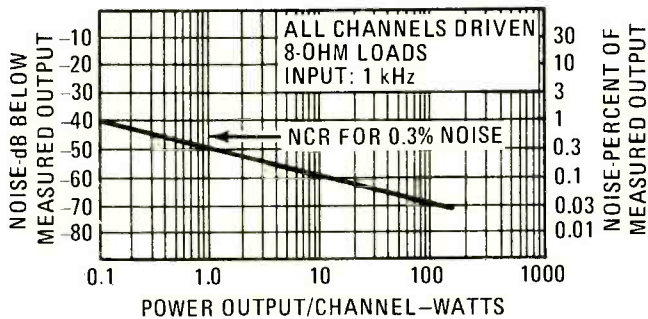
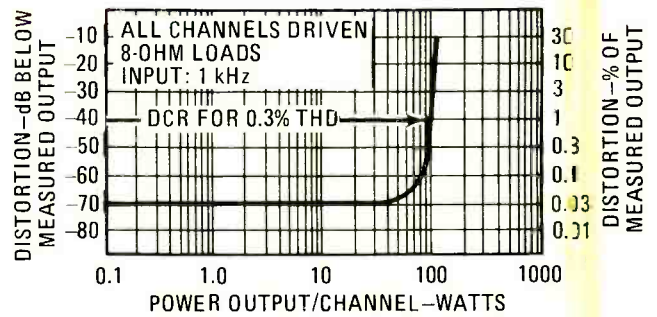
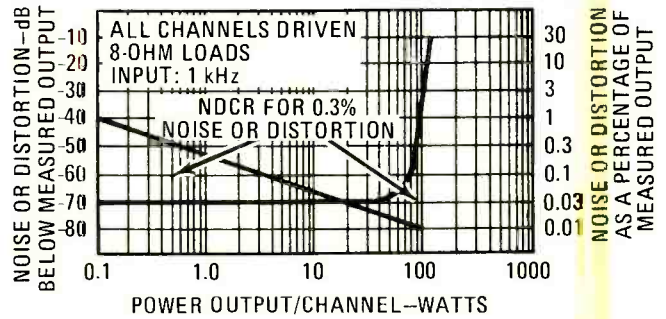

FIG. 3—RELATIVE NOISE LEVEL of a typical amplifier decreases as output power is increased.
FIG. 4—ELIMINATION OF NOTCH DISTORTION results in a harmonic distortion characteristic that doesn't rise at the low-power extreme.
FIG. 5—NOISE AND HARMONIC DISTORTION characteristics combined on a single graph.
A third system concentrates on discrete instruments, but links them together in a dressy equipment rack. The Hickok *Comm-Line* series best illustrates this approach. (See Fig. 3.)
**FIG. 3—ATTRACTIVE DESIGN adds to usefulness of the Hickok *Comm-Line* rack of CB test equipment. Appearance impresses customers when rack is within view. New instruments can also be added as they are introduced.**
Here's a major departure from other methods of gathering CB test instruments. Consider this lineup: A CB RF generator; a seven-digit frequency counter; two-tone audio source; dummy load; RF wattmeter; amplitude-modulation meter with digital readout; audio wattmeter and distortion tester; crystal tester that reads natural frequency of any crystal; and a beat oscillator to measure RF output and modulation on a relatively narrowband scope. What is unusual is that *all* these instruments are housed in one instrument case—the unit is Sencore's *model CB42 Analyzer* shown in Fig. 4.
**FIG. 4—SENCORE MODEL CB42** contains several instruments that are needed to service CB gear, plus extra features some systems do not have. With this setup, few other instruments are needed on the bench.
Typical among these units are two made by Lampkin Laboratories, *model 107C* (shown in Fig. 5) and *model 109*, both designed essentially to measure fre-
**FIG. 5—LAMPKIN LABORATORIES** has been manufacturing frequency meters since the early days of communications. The *model 107C* is highly accurate for AM and FM servicing.
So far, we have only dealt with distortion. But, as everyone knows, an amplifier also has a residual noise level. Figure 3 indicates the amount of noise at the output of the 100-watt amplifier, expressed as a percentage of any output level, or in the number of dB below that output level. When the amplifier delivers its full rated output of 100 watts, residual
Modern amplifiers are designed with virtually *no* crossover or notch distortion and, therefore, have a wide "distortion clearance range." In Fig. 4, the distortion clearance range for 1.0% THD extends from zero all the way up to the maximum rated output. If we *combined* the noise clearance range shown in Fig. 3 with the distortion clearance range of Fig. 4, we would come up with the "noise-plus-distortion clearance range" diagram shown in Fig. 5. Now, if we wanted to specify that this amplifier will operate at no more than 0.3% *noise plus distortion*, we would have to assign a noise-plus-distortion clearance range to it that extends from 0.5 watt to 90 watts. If we accepted a combined noise and distortion at some point in its dynamic range of 1.0%, the noise-plus-distortion clearance range would be extended to 0.1 watt at the low-power end and to 100 watts at the high-powered end.
The rear panel shown in Fig. 3 has fixed and variable-output pairs of jacks, 300- and 75-ohm external antenna terminals, a composite (multiplex or detector) output jack, a single convenience AC outlet, a line fuseholder and a tiny toggle switch with positions for ODD or EVEN frequency tuning. This switch permits the tuner to be used in other countries where stations broadcast at even-decimal portions of a megahertz (for example, 100.2 instead of 100.1). When in the odd-decimal position, tuning progresses in 200-kHz increments from 87.5 MHz to 108.5 MHz; while in the even setting, tuning jumps in similar increments, from 88.6 MHz to 108.6 MHz. The even setting may be useful if the tuner is hooked up to certain cable-FM services in the U.S. which also use "even" frequency increments.
Frequency-response curves of the audio output (including the effect of 25- $\mu$ s and 75- $\mu$ s de-emphasis) are plotted in Fig. 4. The care-
fully designed 19-kHz filter, although effective in reducing pilot-carrier and 38-kHz products at the output, permits response out to 15 kHz (the limit of FM broadcasting), which is within 0.1 dB of the prescribed curves both in mono and stereo! As can be seen from the curves of Fig. 5, separation at mid-frequencies measured 56 dB and remained high across the entire audio band (50 dB at 100 Hz and nearly 40 dB at 100 kHz).